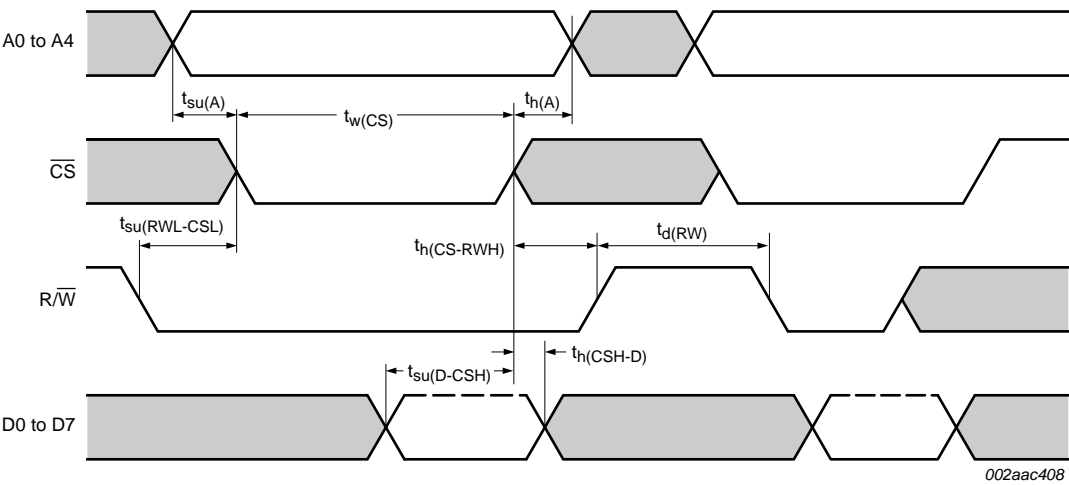

Fig 12. General write timing in 68 mode
(1)  $\overline{\text{CS}}$  timing during a write cycle. See Figure 12.(2)  $\overline{\text{CS}}$  timing during a read cycle. See Figure 14.